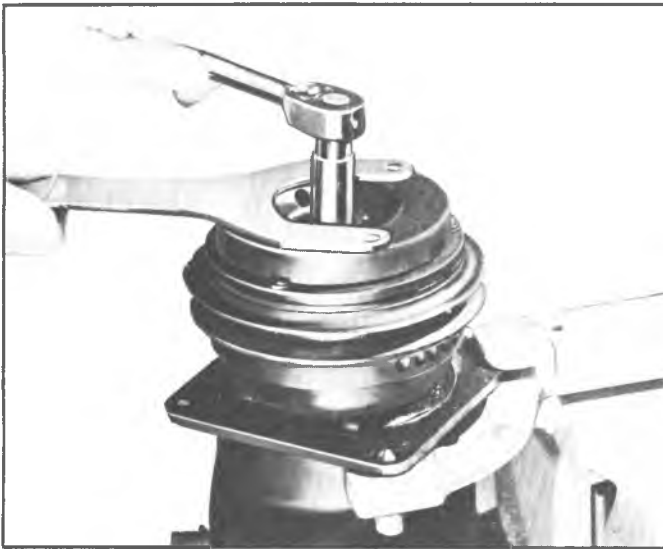

Fig. 2-Removing Shaft Locknut
2. Using Clutch Hub Holding Tool J-9403 and Socket J-9399, remove the locknut from the shaft (fig. 2). Discard locknut.